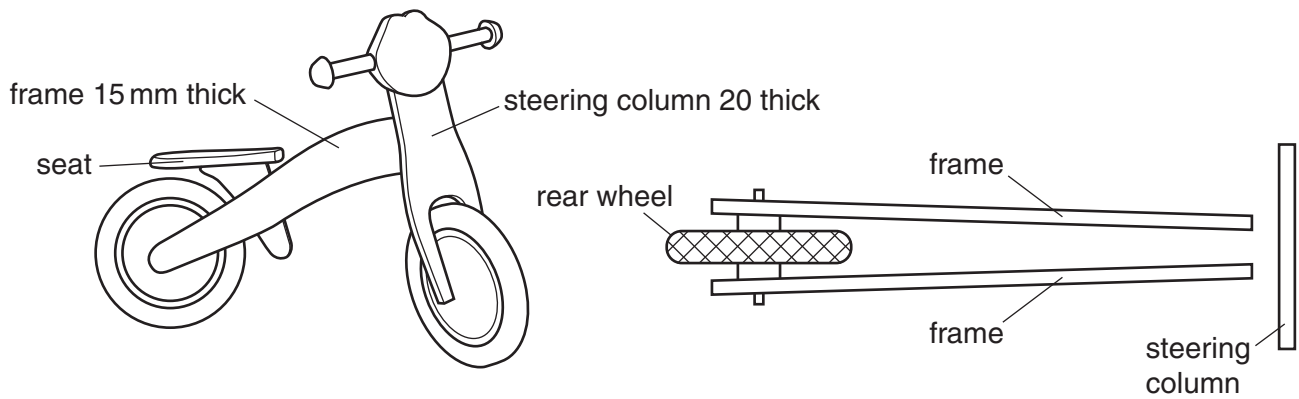

Fig. 4
- 3 Fig. 4 shows details of a sit-on toy made mainly from plywood. The sit-on toy is supplied as a flat-pack for self-assembly.